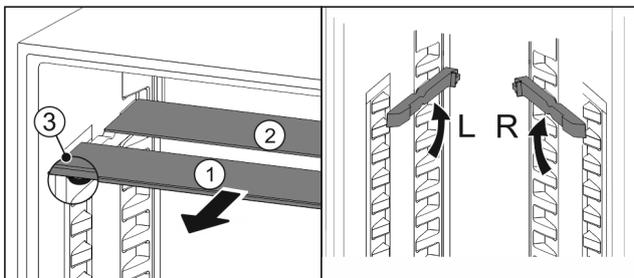

Fig. 88
- ▶ Pull the glass panels out Fig. 88 (1) from the front, one at a time.
- ▶ The glass panel Fig. 88 (1) and trim strip are at the front.
- ▶ The stops Fig. 88 (3) point down.